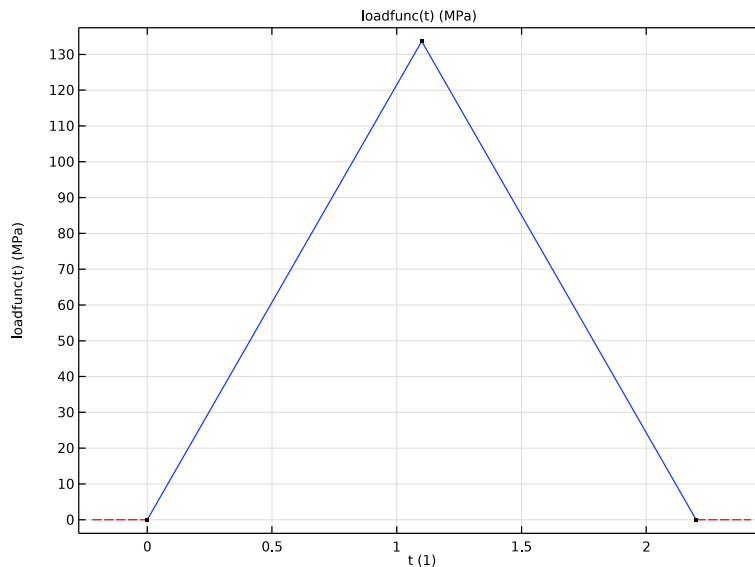

Figure 2: The stress applied to the right vertical edge.
- The right vertical edge is subjected to a stress, which increases from zero to a maximum value of 133.65 MPa and then is released. The peak value is selected so that the mean stress over the section through the hole is 10% above the yield stress ($=1.1 \cdot 243 \cdot (20 - 10) / 20$). The complete release of the stress corresponds to a parameter value of 2.2, see Figure 2.